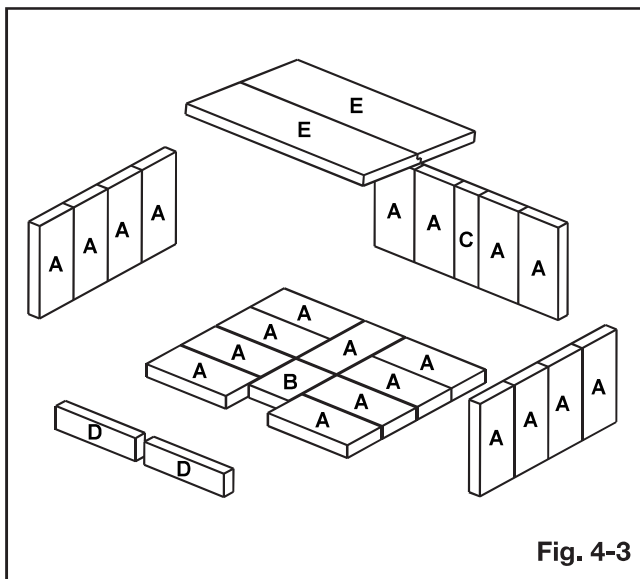

Fig. 4-3
With the appliance and chimney installation completed, move the bricks into place as illustrated below (**Fig. 4-3**).
- Install nine (A) bricks and one (B) brick along the bottom of the firebox, working from the back of the appliance forward.
- Install eight (A) bricks along the left and right sides of the appliance.
- Install four (A) bricks and one (C) brick along the back wall by pivoting the bricks up under the brick retainer.
Place brick (C) in the centre, with two (A) bricks on either side as illustrated (**Fig. 4-3**).
- Install two (D) bricks along the front of the appliance below the ledge at the bottom of the door opening.